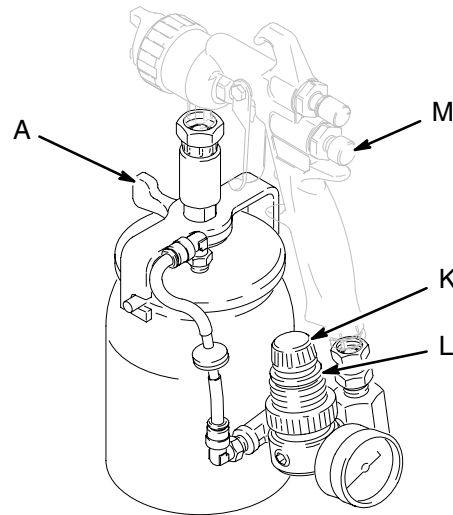

Fig. 4
3. Place the cup on a table and slowly release the clamp (A) to bleed-off any residual pressure in the cup. See Fig. 4. Be sure to push the clamp lever fully to the clamped position before turning on the air supply to the gun again.
1. Pull up the cup regulator adjustment knob lock-ring (L); this allows the knob (K) to turn. See Fig. 4.
2. Set the cup pressure at zero by turning the adjustment knob (K) fully counterclockwise.
3. Slowly turn the adjustment knob (K) clockwise to increase the air pressure to the cup.
4. Push the adjustment knob lock-ring (L) down to lock the cup pressure setting.
1. Pull up the cup regulator adjustment knob lock-ring (L). See Fig. 4.
2. Turn the adjustment knob (K) counterclockwise.
4. Turn the adjustment knob (K) clockwise until you obtain the desired lower pressure setting.
5. Push down the adjustment knob lock-ring (L).